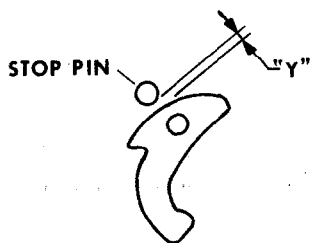

Figure 5. Flyweight/Axle Wear Check (Push)
c. Remove the hook wire from the flyweight and insert additional feeler gages between stop pin and flyweight as required to push the flyweight directly in toward the magneto rotor shaft as far as possible. Force exerted to insert feeler gages should be limited to that required for any normal feeler gage measurement. Record the measurement obtained ("Y" of figure 5).